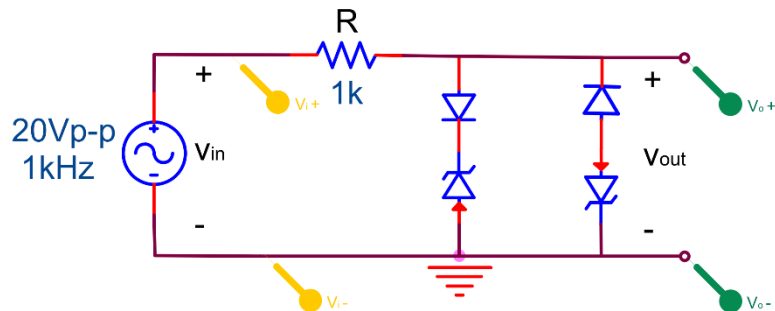

Figure 3.11
- Construct the zener diode clipper circuit in Figure 3.11. Use the 1N746A zener diode. Using the oscilloscope, measure the level at which the v_o waveform clips on the positive and negative sides. Run a PSPICE simulation of the circuit and test with a 1 kHz sine wave input. Compare the experimental results with those obtained in the pre-lab. Also compare the results obtained in the PSPICE simulation. Use the zener diode breakout model in PSPICE as described below.
3. Run a PSPICE simulation of Figure 3.11 and compare the findings with the lab and prelab.